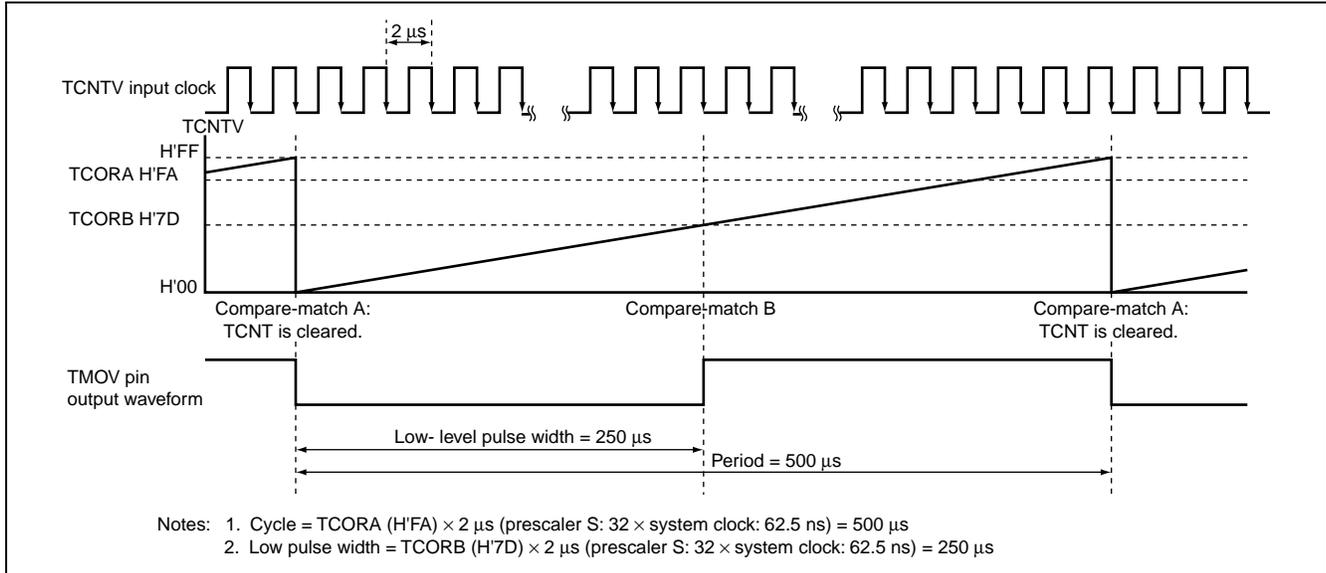

Figure 2.2 Setting of the Overall and Low-Level Periods for the TMOV-Pin Output Waveform
2. Figure 2.2 shows how the overall and low-level periods of the output waveform on the TMOV pin are set.